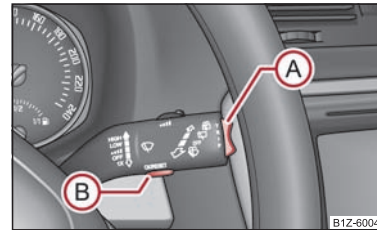

Fig. 19 Multi-functional indicator: Control elements
Switching over the memory takes place with the button **(B)** ⇒ fig. 19 on the windshield wiper lever.
The rocker **(A)** and the button **(B)** are located in the grip of the window wiper lever ⇒ fig. 19.
If the outside temperature drops below +4 °C, a snow flake symbol (warning signal for ice on the road) appears before the temperature indicator and a warning signal sounds. After pressing the rocker (A) on the windshield wiper lever ⇒ page 19, fig. 19, the function which was shown last is indicated.
The driving time which has elapsed since the memory was last erased, appears in the display. If you wish to measure the driving time as of a particular time, you must set the memory to zero at this moment in time by pressing the button (B) ⇒ page 19, fig. 19 on the windshield wiper lever for longer than 1 second.
The distance driven since the memory was last erased appears in the display ⇒ page 18. If you wish to calculate the distance driven as of a particular time, you must erase the memory at this moment in time by pressing the button (B) on the windshield wiper lever ⇒ page 19, fig. 19. ▶
The average speed since the memory was last erased is shown in the display in km/hour ⇒ page 18. If you wish to determine the average speed over a certain period of time, you must set the memory at the start of the new measurement to zero using the button **(B)** on the windshield wiper lever ⇒ page 19, fig. 19.
- With switch **(A)** ⇒ page 19, fig. 19, choose the menu point **Warning against excessive speeds**.